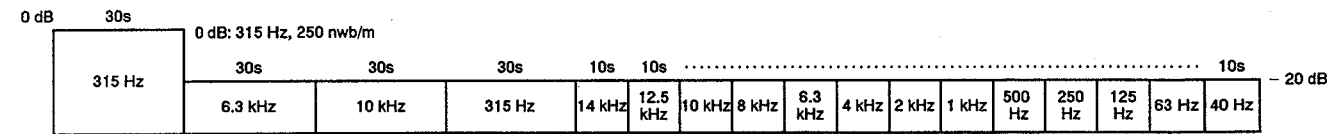

Fig. 3 Constants of the test tape STD-331E
- STD-331E : Playback adjustments (See Fig. 3)